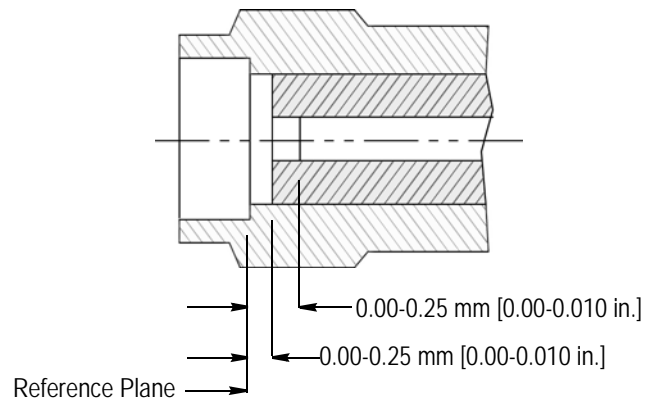

Figure 7
Adherence to the assembly procedure will yield tolerances given in Figure 7.
- Changed dimensions in Figure 7